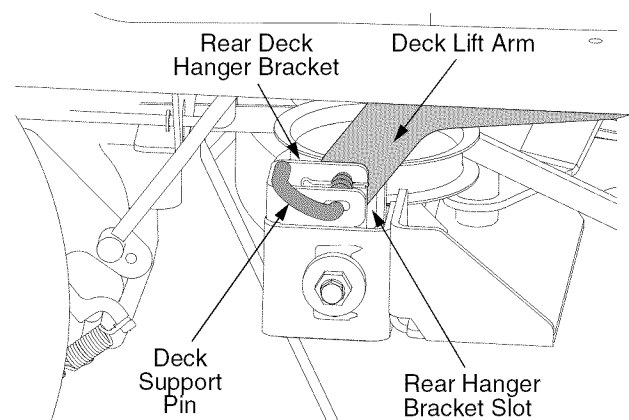

Figure 35
5. Locate the LH and RH deck support pins on each side of the deck. Pull the deck support pins outward and lock in the disengaged position to release the deck from the tractor's LH and RH deck lift arms. See Figure 35.
4. Maneuver the deck so that the slots in the two rear deck hanger brackets approximately align with the deck lift arms of the tractor. Refer to Figure 35.
6. Pull the deck support pins outward and maneuver the deck as necessary to align the holes in the deck lift arm with the pins. Refer to Figure 35.